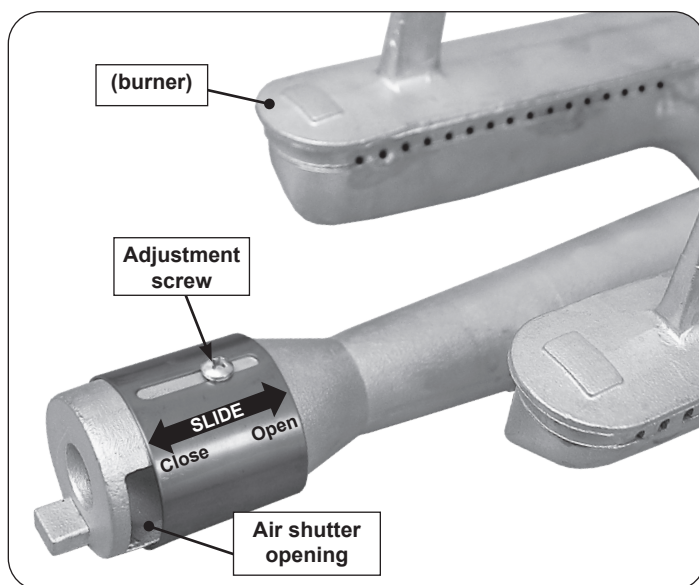

Fig. 40-2 Main burner air shutter adjustment detail
1. To adjust the air shutter, loosen the adjustment screw with a Phillips screwdriver. Then slide the shutter to open or close it. See Fig. 40-2 for details.